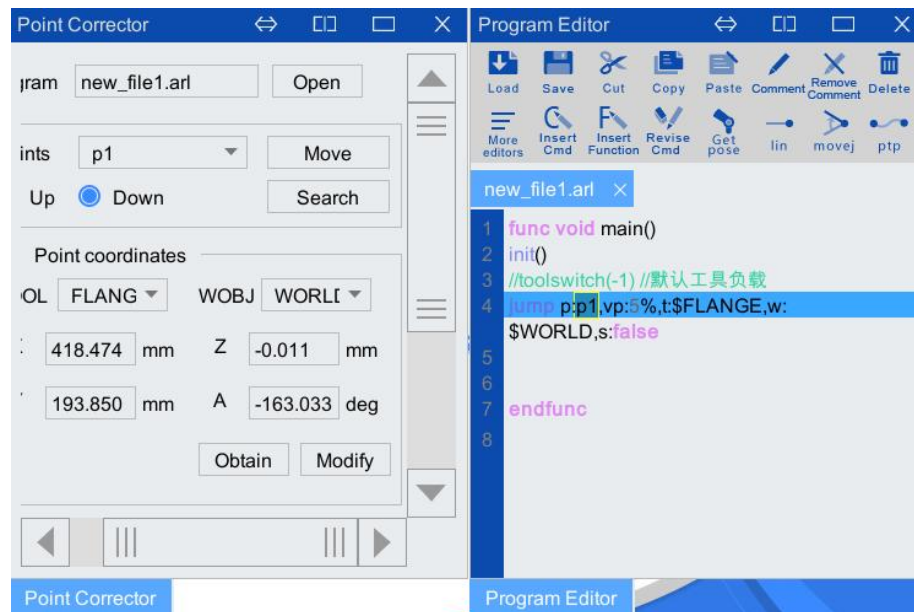

Figure 5-73 "Point List" Related button introduction
- Step3. Click the drop-down box of "Point List" in Figure 5-73 to display all point data in the program. The <Up>, <Down> buttons and the <Search in Program> button are used together, meaning to search the selected point in the "Point List" from the current position in the program "up" or "down".